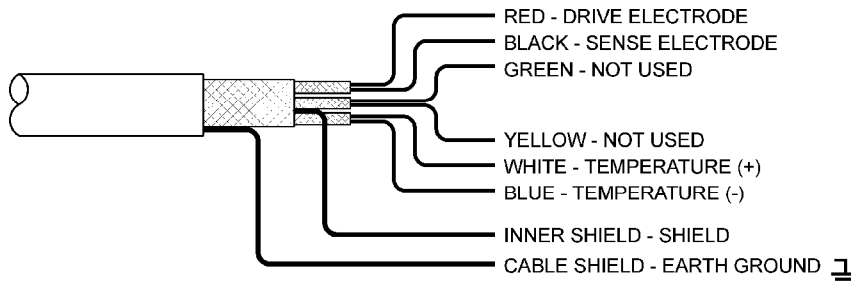
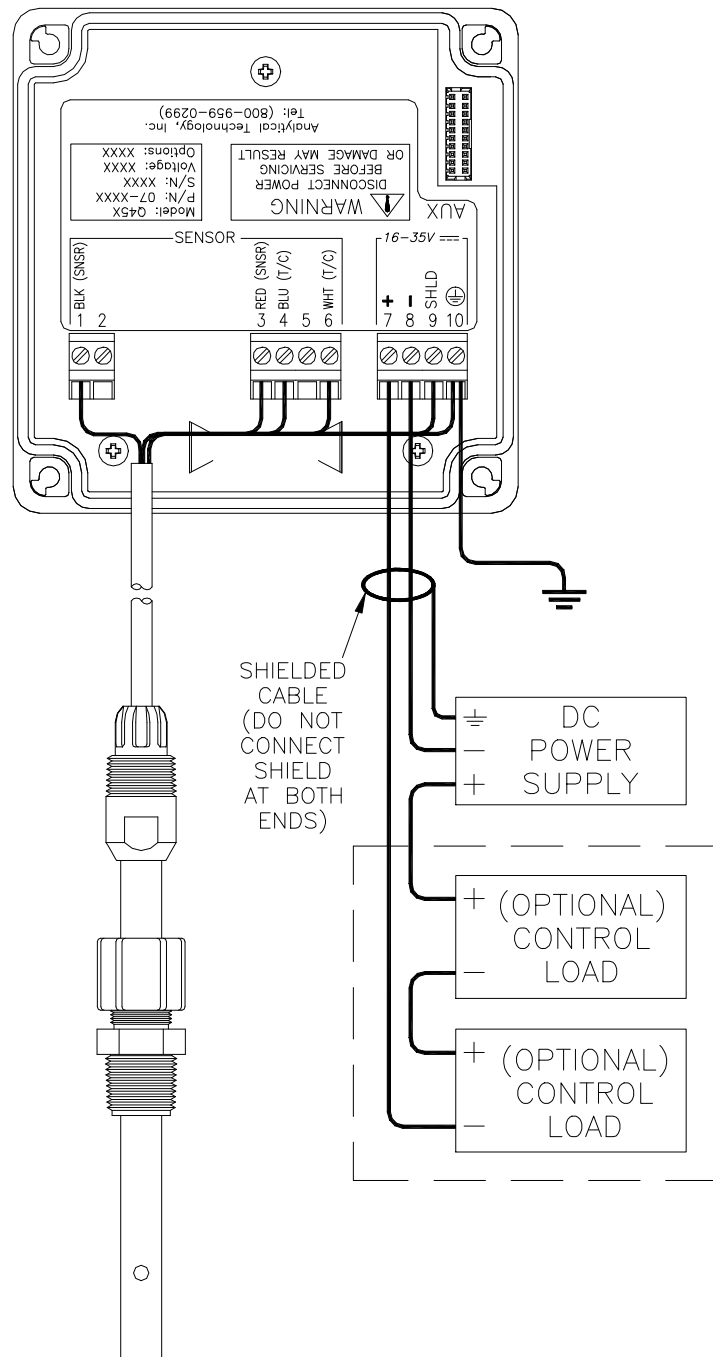

Figure 7 - Cable Description, Model Q25C2
Figure 8 - Loop Power Connection
1. Use wiring practices that conform to all national, state and local electrical codes. For proper safety as well as stable measuring performance, it is important that the earth ground connection be made to a solid ground point from terminal 12 (Figure 8). The AC power supply contains a single 100mA (115V) or 50mA (230V) slo-blo fuse. The fuse **F1** is located adjacent to **TB5** and is easily replaceable.
Refer to Figure 7, Cable Description and Figure 8, Wiring Diagram for illustrative details on electrical installation.
In the two-wire configuration, a separate DC power supply must be used to power the instrument. The exact connection of this power supply is dependent on the control system into which the instrument will connect. See Figure 8 for further details. Any twisted pair shielded cable can be used for connection of the instrument to the power supply. Route signal cable away from AC power lines, adjustable frequency drives, motors, or other noisy electrical signal lines. Do not run sensor or signal cables in conduit that contains AC power lines or motor leads.